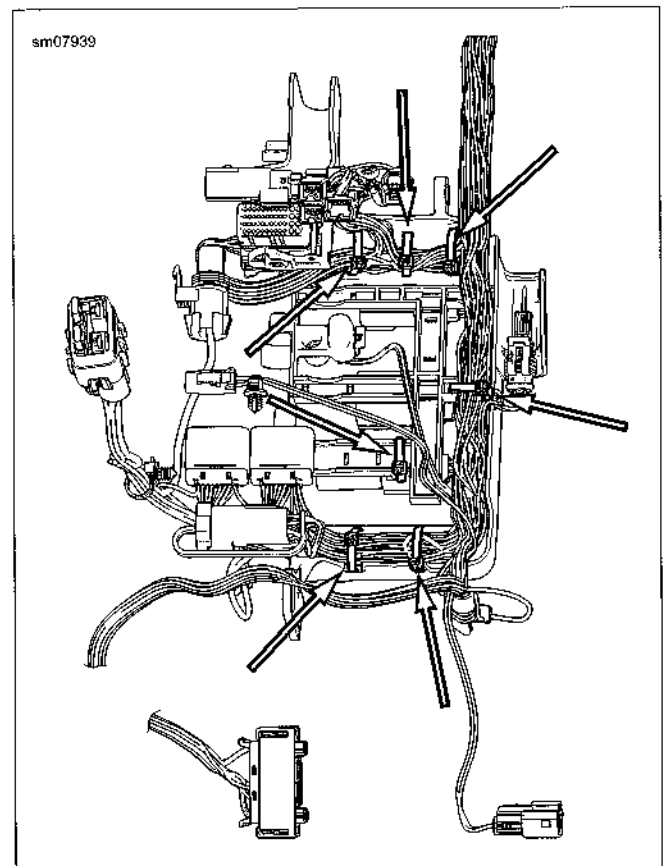

Figure 6-95. ECM Electrical Caddy Cable Straps
2. See Figure 6-95. Remove all cable straps securing wiring harness bundles to ECM electrical caddy.
1. See Figure 6-95. Position wiring harness bundles and connector sockets on ECM electrical caddy as shown in the figure.